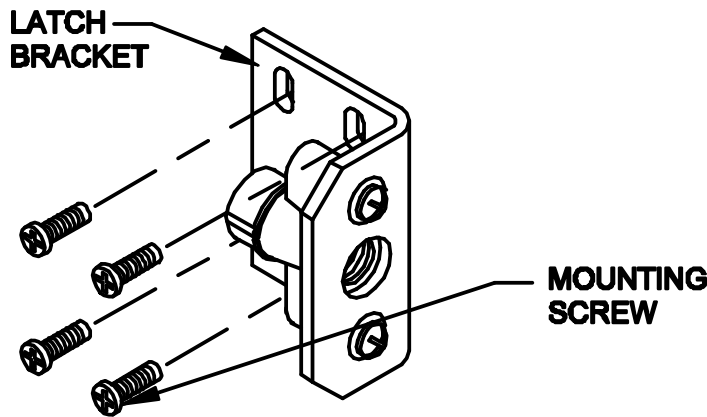

FIGURE 3
I. Door Latch Alignment (Figure 3)